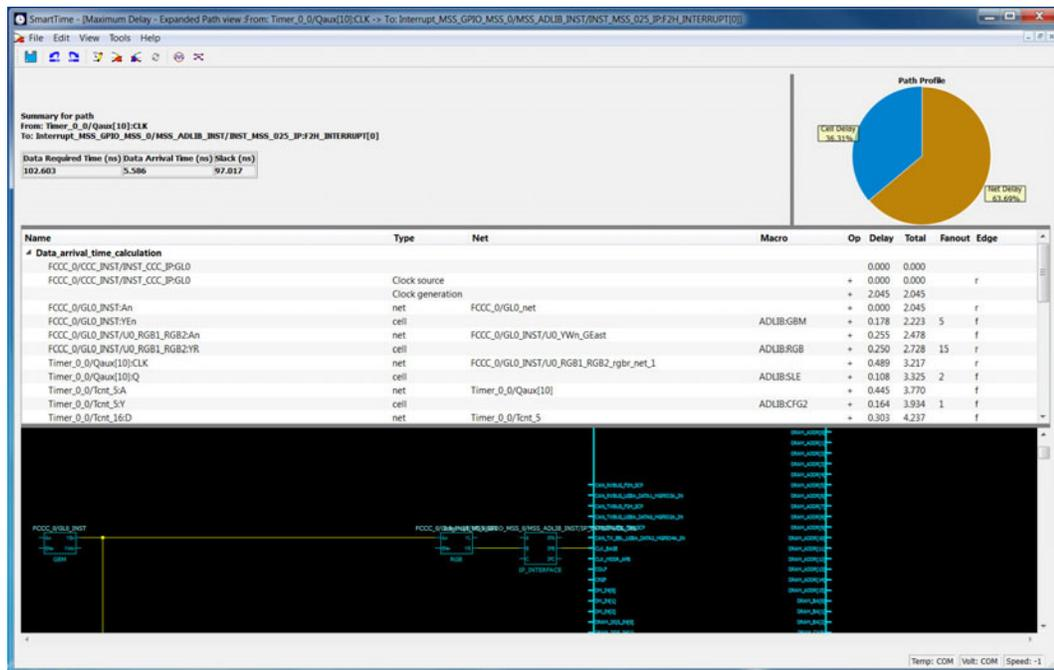

Figure 5-7 • Detailed View of the Register Path in SmartTime
3. Double-click one of the source pins to view detailed timing analysis for the selected path in the path details (as shown in Figure 5-7).